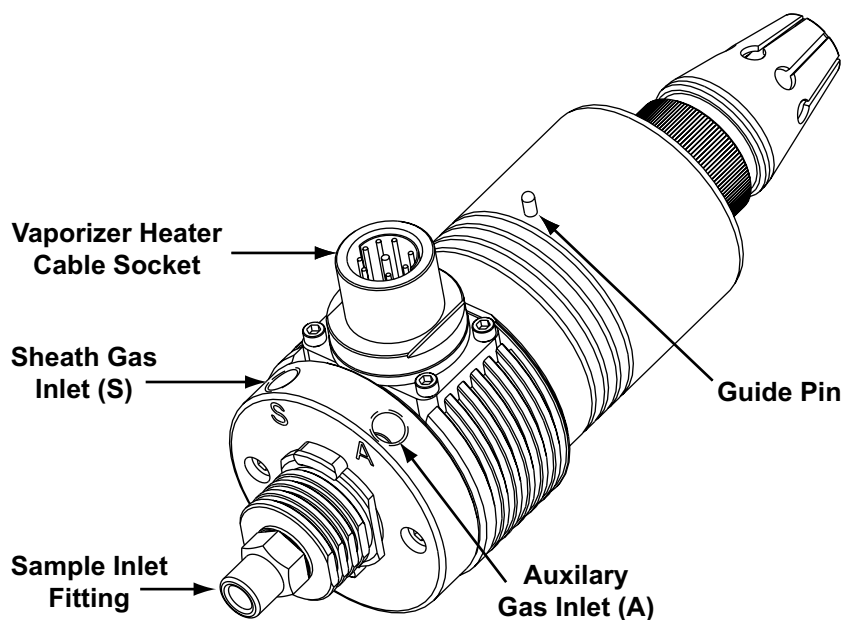

Figure 8-2. APCI probe
1. Connect an appropriate length of (red) PEEK tubing (transfer line from the divert/inject valve) from port 3 of the divert/inject valve to the (stainless steel) sample inlet fitting on the APCI probe. See Figure 8-1 and Figure 8-2.